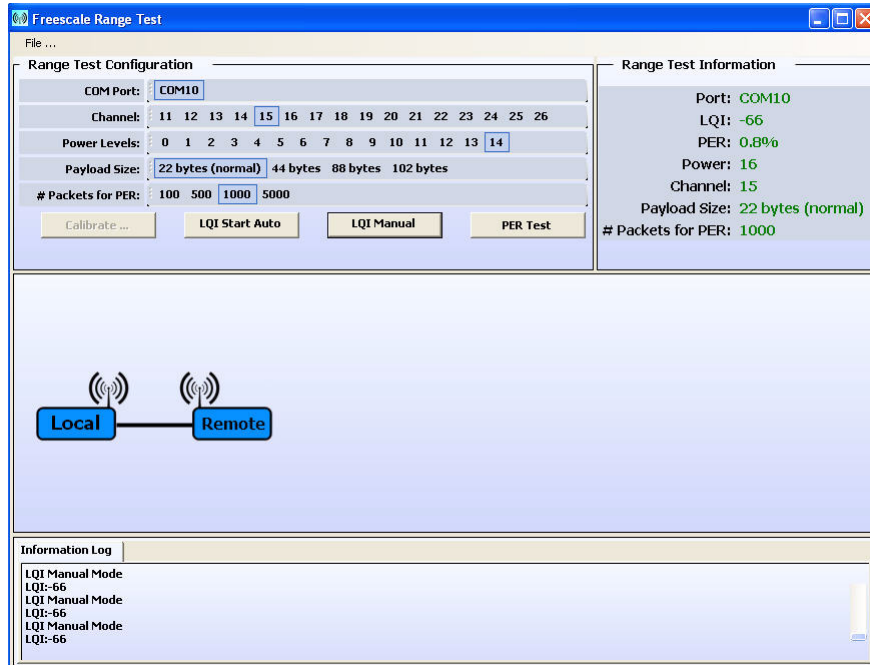

Figure 7-13. LQI Test (Manual Mode) Running
1. Press the “LQI Manual” button on the Range Demonstration main window to run the LQI test once. Each time the “LQI Manual” button is clicked, the test is run and the information is updated as shown in Figure 7-13.